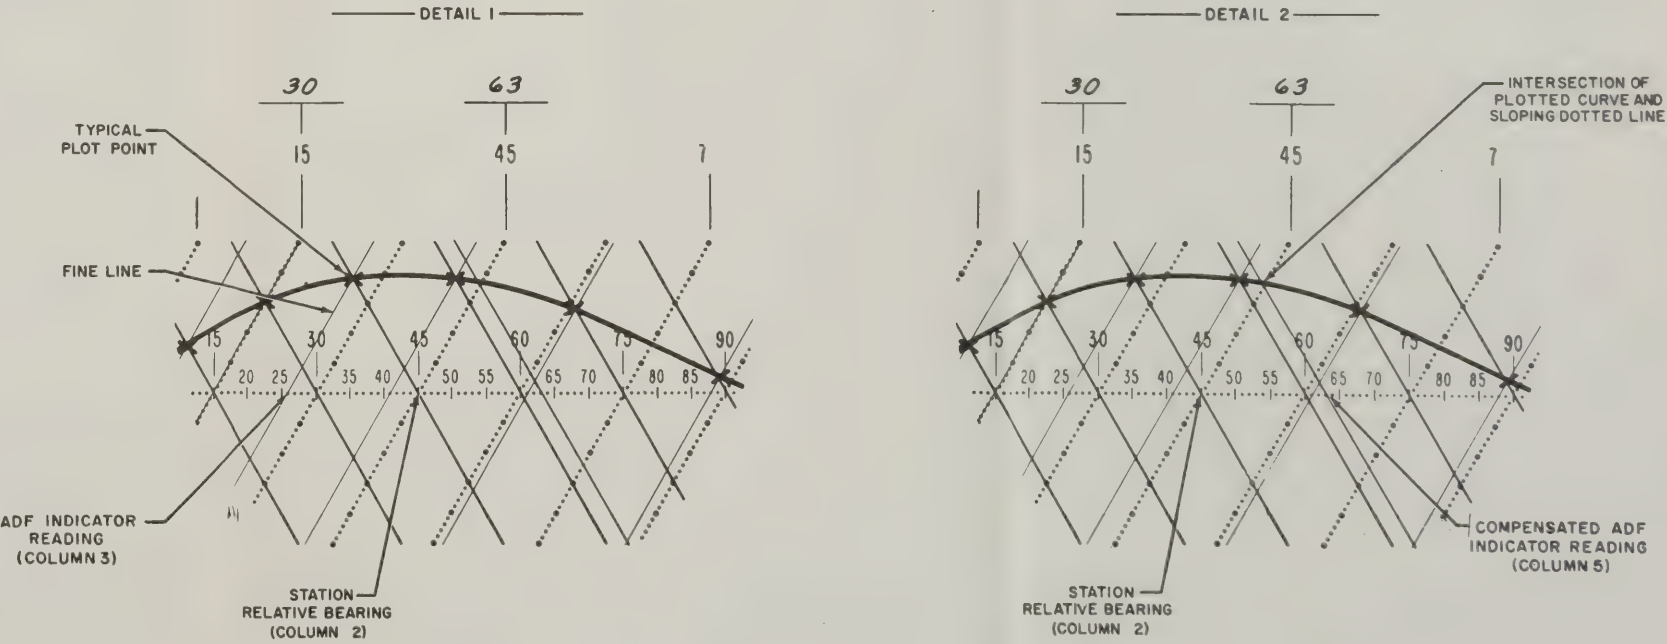

Figure 2-17. Example of Recorded Flight Data and Loop Compensation Curve
in Figure 2-17 indicates that for an actual bearing of 15°, the ADF indicator bearing is 30°.)
Step 4. Determine corrected ADF indicator bearing values for Column 5 of Figure 2-12 (see Figure 2-17 for example) from resulting curve as follows:
b. In Column 5 of Figure 2-12, record the values for the points of intersection as read on the horizontal graduations beside the 15° dotted line values in Column 4 of Figure 2-12. For example: To determine corrected ADF indicator bearing of 45° (Column 4), lay straight edge parallel to solid line and draw a fine line through intersection of dotted 45° line and curve (see Figure 2-17). This line passes through the horizontal graduations at 63°. This value is recorded in Column 5. Similarly, a bearing of 105° from Column 4 gives a bearing of 100° for Column 5.
Step 1. Using a form similar to that shown in Figure 2-16, lay a straight edge parallel to the sloping dotted line and through the data point of Column 3 on the horizontal scale, and draw a fine line (see Figure 2-17). The point at which this line intersects the solid line is the plot point. (The example shown